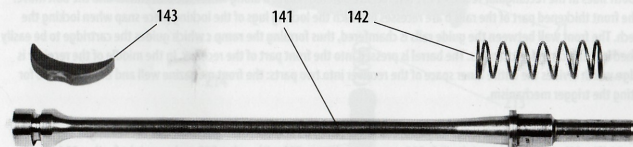

Fig. 7 Piston with spring
**Piston 141** (Fig. 7) transmits the kinetic energy of a portion of the powder gases produced by the combustion of the powder charge in the barrel to the bolt carrier. The front part of the piston has a cylindrical head with a circumferential groove for better packing of gases in the gas cylinder and for deposition of burnt powder remainders. The rear part of the piston is thickened and forms a guide for piston spring 142, whose one end is leaning against the face of the rear sight base recess and the other end has the collar which, together with the stop in the rear sight base recess, limits the piston forward motion. The transition of the cylindrical reinforcement into the guide part of the piston is of a conical shape; this conical surface limits piston motion by bearing against the corresponding surface of the rear sight base. The piston spring causes the piston to return from the rear position once again to the starting position (i.e. to the front position).